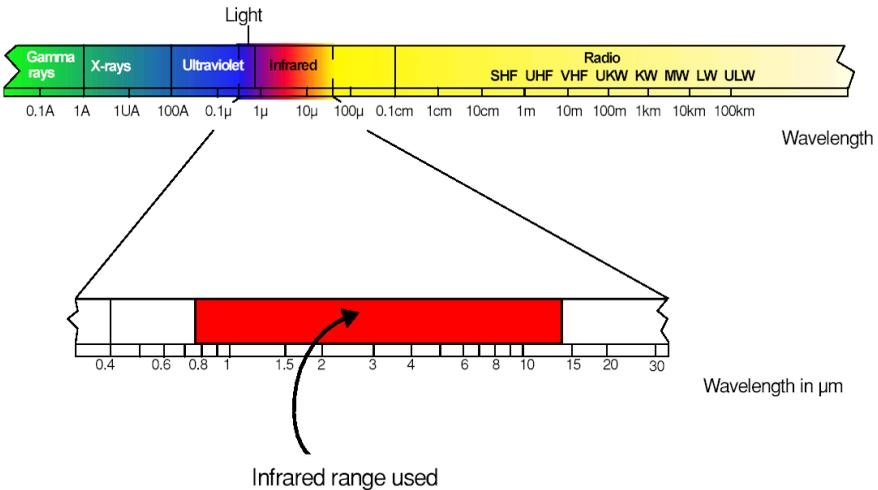

Fig. 2 The electromagnetic spectrum, with range from around 0.7 to 14 μm useful for measuring purposes
Every form of matter with a temperature (T) above absolute zero emits infrared radiation according to its temperature. This is called characteristic radiation. The cause of this is the internal mechanical movement of molecules. The intensity of this movement depends on the temperature of the object. Since the molecule movement represents charge displacement, electromagnetic radiation (photon particles) is emitted. These photons move at the speed of light and behave according to the known optical principles. They can be deflected, focused with a lens, or reflected from reflective surfaces. The spectrum of this radiation ranges from 0.7 to 1000 μm wavelength. For this reason, this radiation cannot normally be seen with the naked eye. This area lies within the red area of visible light and has therefore been called "infra"-red after the Latin. (See Fig. 2).